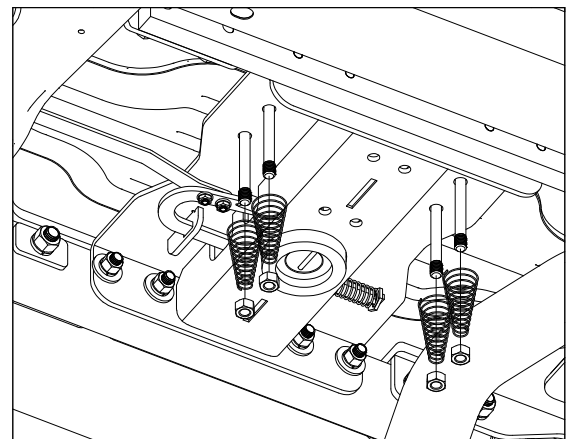

Figure F2: View looking up at U-bolt installation locations in center section.
3. **Add Springs.** Place a conical spring over each leg of the U-bolts and secure with a 1/2" lock nut, see Figure F2. Tighten the lock nut until the nut is flush with the end of the U-bolt.